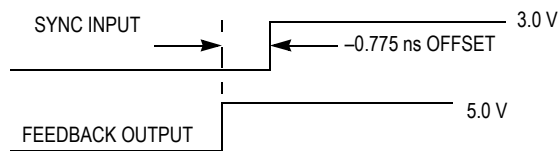

Figure 4. Depiction of the Fixed SYNC to Feedback Offset (t_{PD}) Which is Present When a 470 kΩ Resistor is Tied to V_{CC} or Ground
4. A 1 M Ω resistor tied to either Analog V_{CC} or Analog GND, depicted in Figure 4, is required to ensure no jitter is present on the MC88915 outputs. This technique causes a phase offset between the SYNC input and the output connected to the FEEDBACK input, measured at the input pins. The t_{PD} spec describes how this offset varies with process, temperature, and voltage. The specs were determined by measuring the phase relationship for the 14 lots described in Note 1 while the part was in phase-locked operation. The actual measurements were made with a 10 MHz SYNC input (1.0 ns edge rate from 0.8 V – 2.0 V) with the Q/2 output fed back. The phase measurements were made at 1.5 V. The Q/2 output was terminated at the FEEDBACK input with 100 Ω to V_{CC} and 100 Ω to ground.